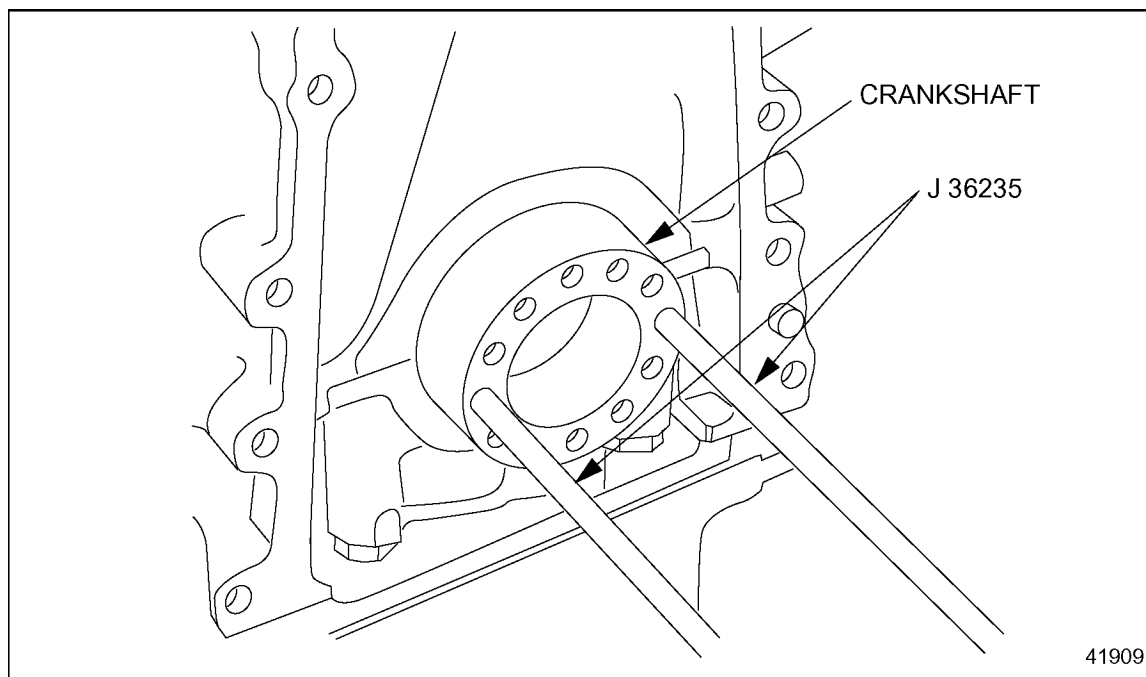

Figure 9-2 Flywheel Guide Studs
- [b] Insert two flywheel guide studs, J 36235 into the crankshaft. See Figure 9-2.